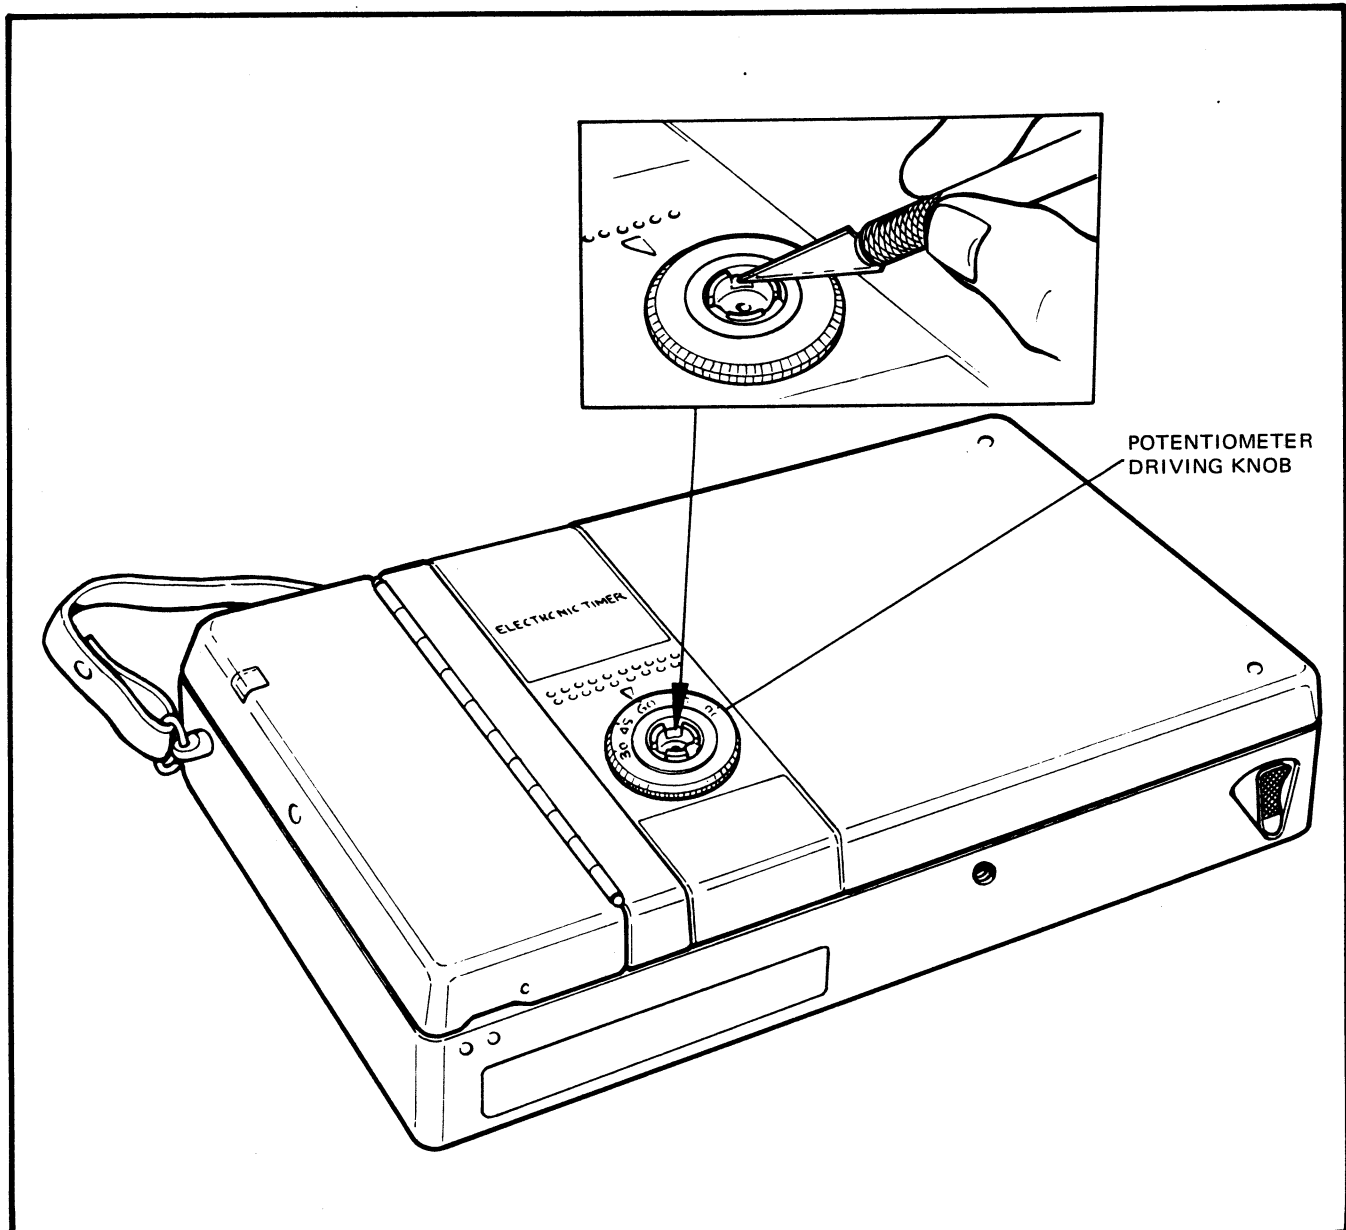

FIG. 5.34 REMOVING THE DRIVING KNOB
2. Remove the potentiometer driving knob from the timer using an X-acto knife with #11 blade (Figure 5-34). Remove only enough heat seal to allow the knob to clear the potentiometer.